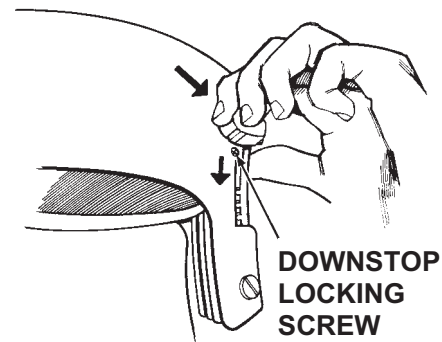

Figure 2-20. Visor
8. Referring to Figure 2-20, lower visors to check centering and nose clearance. If necessary, adjust visor as follows: